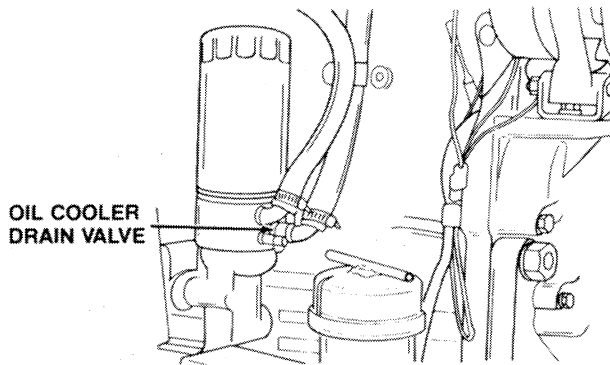

Figure 4-16. Oil Cooler Drain Valve
- (1) While coolant is still hot, open the radiator drain valve (11, figure 5-33), oil cooler drain (figure 4-16), and engine block drain valve (figure 4-17). Drain all coolant and close the valves.